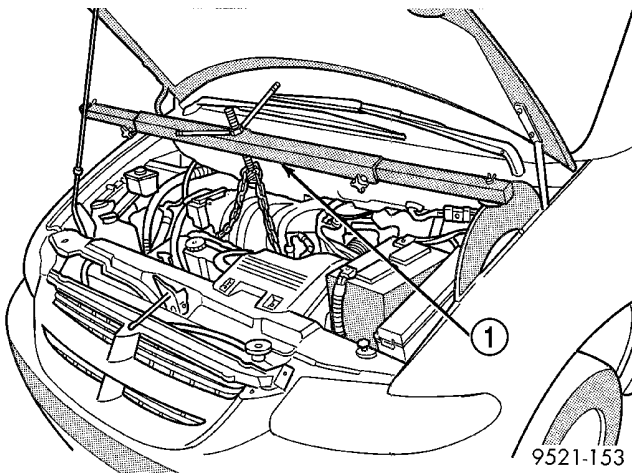

Fig. 12 Engine Support Fixture
- (1) Disconnect negative battery cable.
- (2) Remove air cleaner and hoses.
- (3) Disconnect throttle linkage and shift linkage from transaxle.
- (4) Unplug torque converter clutch connector, located near the dipstick. Unplug the gear position switch.
- (5) Remove transaxle dipstick tube.
- (6) Remove the transaxle cooler lines and plug.
- (7) Install engine support fixture (Fig. 12).